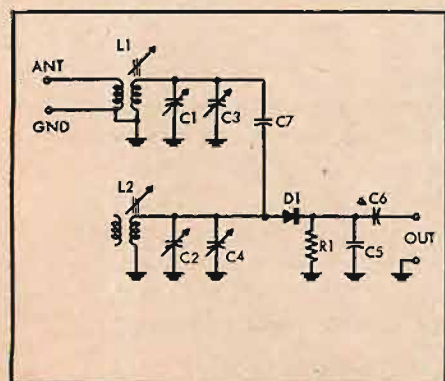

Fig. 1. A simple high fidelity AM tuner.
A. Here is one designed by the author and used successfully by him for some years. It is simple and low-cost but yet possesses excellent fidelity. As can be seen from Fig. 1, this is nothing more than the old-fashioned crystal set with an additional tuned circuit to improve its selectivity. The output of the receiver is quite low, so it must be fed into a high-gain microphone input to obtain sufficient listening level.
**Construction:** The unit may be built into one of the standard aluminum utility boxes, easily obtainable from any radio supply house. Be sure that coils  $L_1$  and  $L_2$  are shielded from each other, so that coupling can exist only via  $C_1$ . It would be best to use coils which are already shielded; however, the shield can take the form of a strip of metal placed vertically between the two coils, and grounded to the box. Electrically insulate the variable capacitor,  $C_1$ - $C_2$ , from the box. Run a piece of braid or bus wire from each wiper to separate points on the box. Make all ground connections for  $L_1$  to the point where the wiper for  $C_1$  is grounded; make all other ground connections to the point where the wiper for  $C_2$  is grounded.  $C_3$  and  $C_4$  should be mounted directly across  $C_1$  and  $C_2$  if possible.  $C_7$  is a capacitor made by twisting two pieces of insulated wire together. The gauge of the wire and the thickness of the insulation are not critical. One end of the pair is dead-ended, making sure there is no electrical contact between the wires. The other end of the twisted pair is connected as shown in Fig. 1. The twisted pair should be 6 to 8 inches long at the beginning of the alignment process.
**Alignment:** (1) Connect the antenna, ground, and amplifier to their proper terminals. (2) Locate a station at the high end of the band and adjust  $C_3$  and  $C_4$  for maximum output as heard through the loudspeaker. (3) Locate a station at the low end of the band and adjust the slugs of  $L_1$  and  $L_2$  for maximum output. (4) Repeat Step (2).